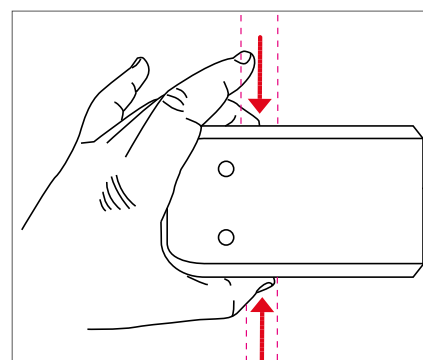

Figure 4.29 Removal of docking station top cover
- Press the docking station to remove the cover (Fig. 4.29)